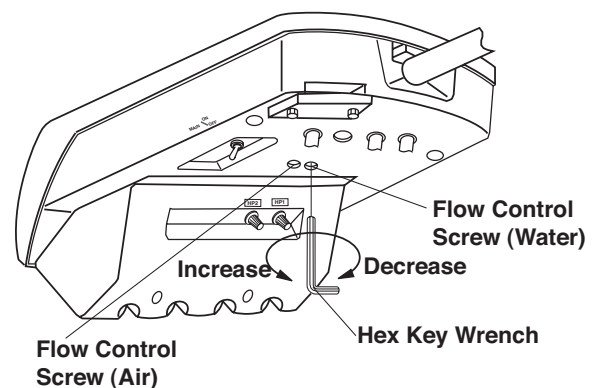

Fig. 3-4 3-Way Syringe Flow Control Screws
B. 3-Way Syringe Flow Control Screws (Fig.3-4)